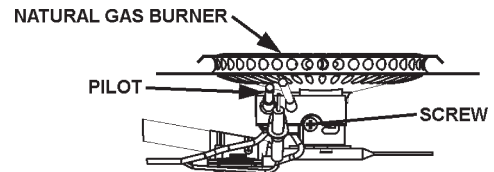

FIGURE 16.
15. Remove the Phillips-head screw holding the pilot bracket to the burner head, see Figure 16.